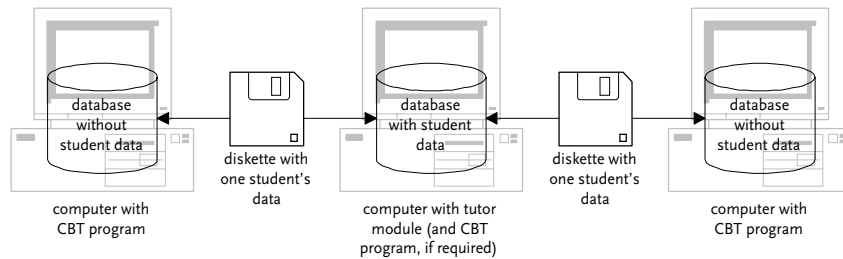

FIGURE 3-10 Various computers without a network, on which the student data is exchanged by diskette
- various computers without a network (Figure 3-10)